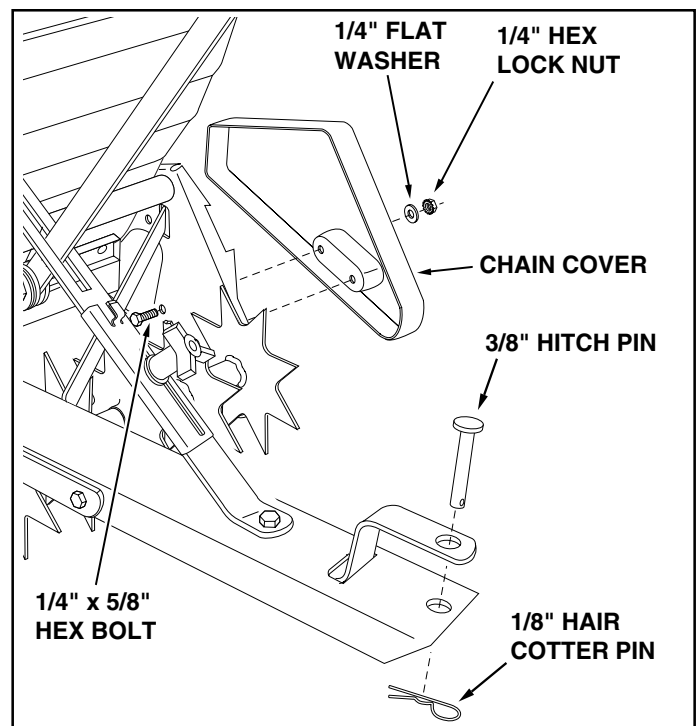

FIGURE 9
20. Assemble the chain cover to the frame assembly using two 1/4" x 5/8" hex bolts, 1/4" flat washers and 1/4" hex nuts as shown figure 9.
21. Install the hitch pin and the 1/8" hair cotter pin in the spreader hitch bracket and tongue. See figure 9.